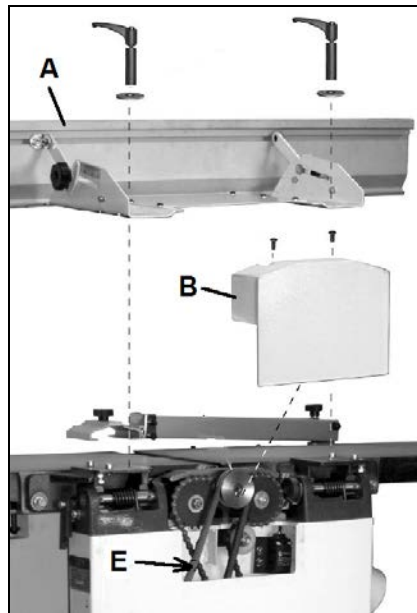

Fig 13
Remove the fence (A, Fig 13) and the pulley cover (B).